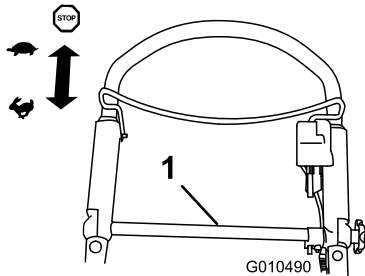

Figure 22
To operate the self-propel drive, simply walk with your hands on the upper handle and your elbows at your sides, and the mower will automatically keep pace with you (Figure 22).
**Note:** If, when backing up after self-propelling, the mower does not roll backward freely, nudge the mower forward about an inch or two without engaging the self-propel drive (Figure 22), then pull the mower backward.